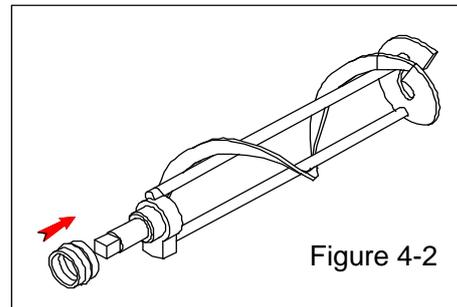

Figure 4-2
- E. Install the beater with the beater seal (Figure 4-2).